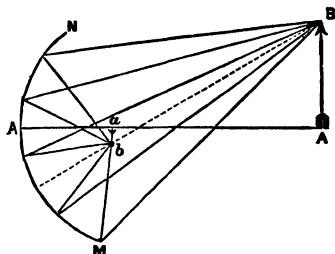

FIG. 10.
4. When the mirror is concave, and the object placed at a distance from the mirror greater than its focal length (Fig. 10), the image is real, inverted, and diminished. Conversely, if we suppose a b an object, A B will be the image, in this case real, inverted, and enlarged.